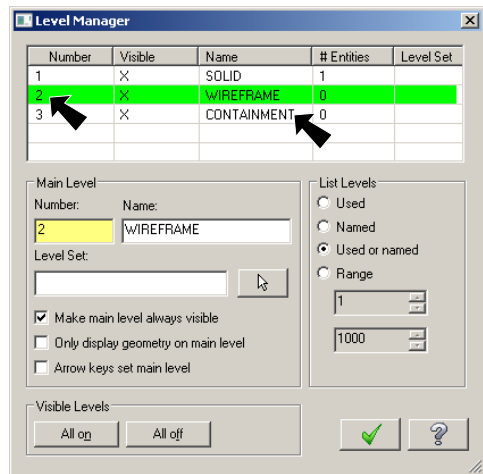

Fig. 13
- Step 5. Continue and create **CONTAINMENT** Level as shown here and Fig. 13
- Step 6. Click the **2** in Number column to make **Level 2 WIREFRAME** active and click OK  , Fig. 13.